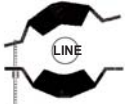

fig 1
1. Insert one strap through holes as in *fig 1*. DO NOT TIGHTEN FULLY leaving approximately a one inch adjustment loop.